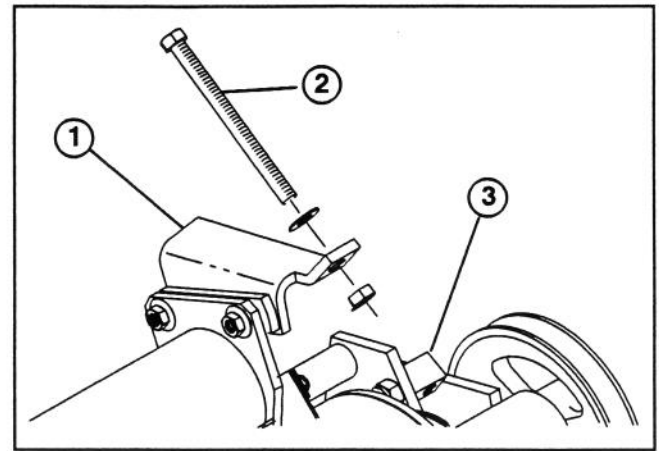

Figure 8
32. Insert a flat washer onto tap bolt, then thread tap bolt into adjustment bracket about two inches. Loosely thread a hex nut onto tap bolt (Fig. 8).
33. Pivot clutch and bracket assembly up until tap bolt can be threaded into bolt guide (Fig. 8).